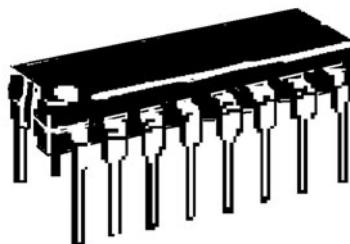

Figure L1-2
Do not remove the small integrated-circuit (IC) chips shown in Figure L1-2 from their antistatic packaging. They are packed in a special antistatic tube or special sponge material.